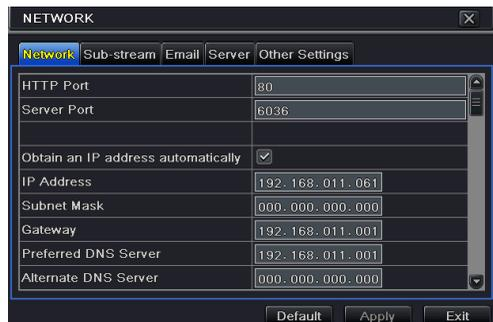

Fig 4-24 Network Configuration-Network
Step 1: Enter into Menu→Setup→Network→Network tab. Refer to Fig 4-24: